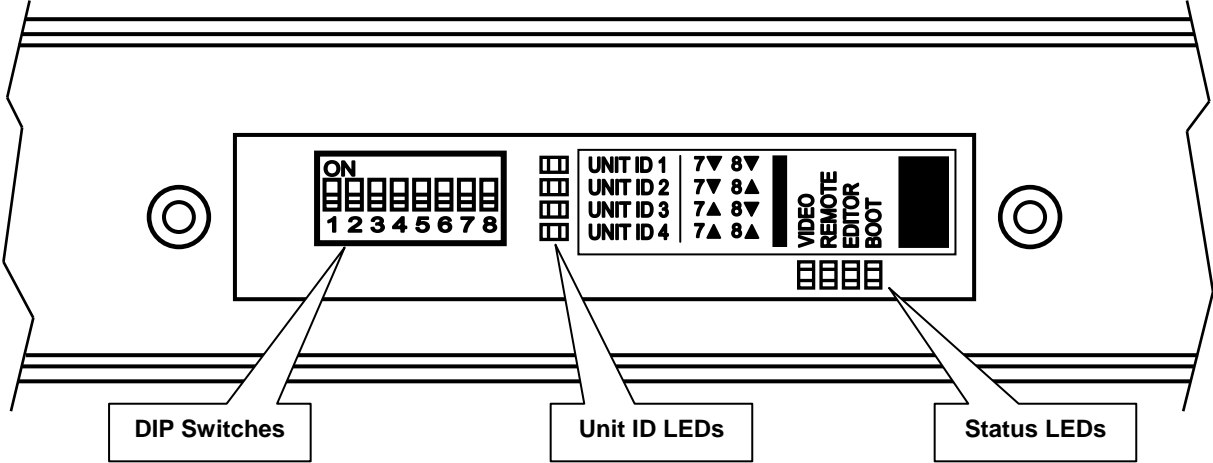

Figure 2.10-1. Main Unit Front View (Front Cover Removed)
The SR-4 is software configured to be the Master with up to four (4) Ultimatte-11 units as slaves. Only the Master can initiate a message exchange. The Ultimatte-11 is shipped with a factory default ID of number 1. When more than one unit needs to be connected, each should be assigned a different number (1, 2, 3 and 4) only. Each unit will respond only when it is addressed. The ID number is selected by setting Dip Switch 7 and 8 and indicated by LEDs. The front panel must be removed to access these switches (see Figure 2.10-1).
There are four Unit ID LEDs corresponding to the Main Unit ID number. The location of the LEDs is in the front of the Main Unit with the front cover removed (see Figure 2.10-1). The Main Unit ID number is configured by setting DIP Switches 7 and 8 (refer to Table 2.10-1)
There are four Status LEDs that provide status information. The location of the LEDs is in the front of the Main Unit with the front cover removed (see Figure 2.10-1).